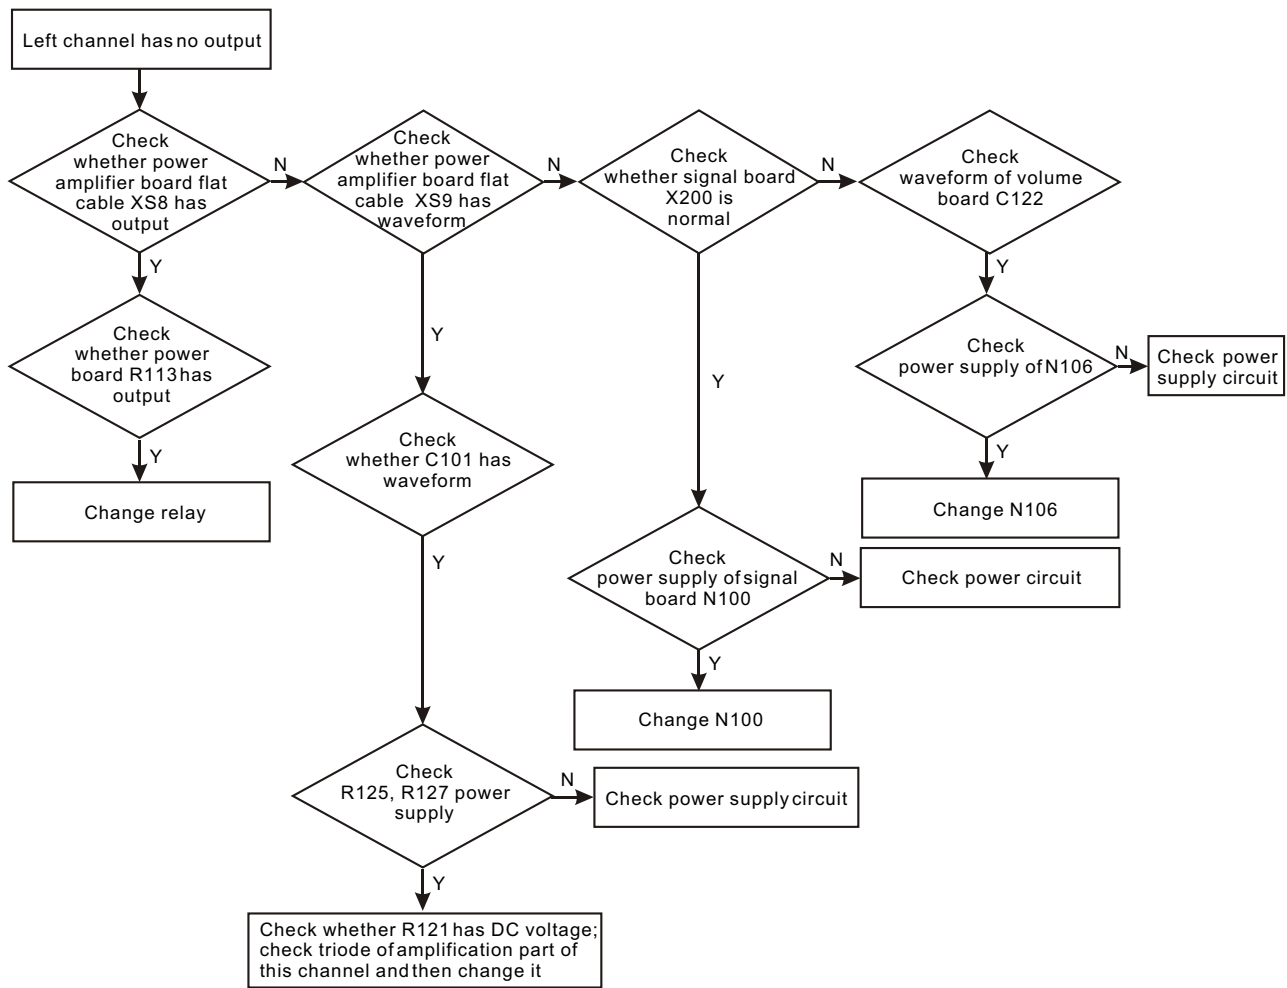

Figure 3.3.2.7 Troubleshooting flow chart for "Left channel has no output"
8. Troubleshooting process for “Power not on” is shown as the following figure 3.3.2.8: